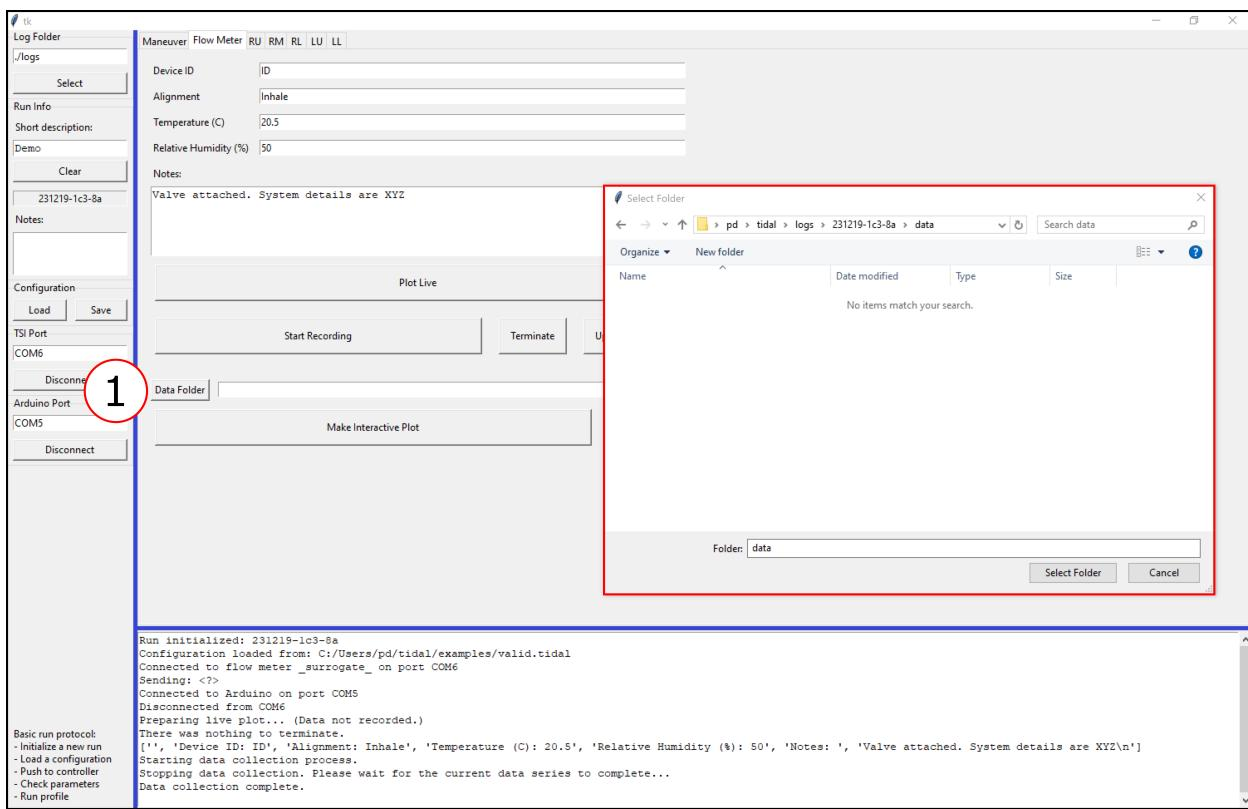

Figure 17: Open the data folder.
- From the flow meter tab, click the Data Folder button and navigate to the data folder for the run of interest. (**Figure 17**)